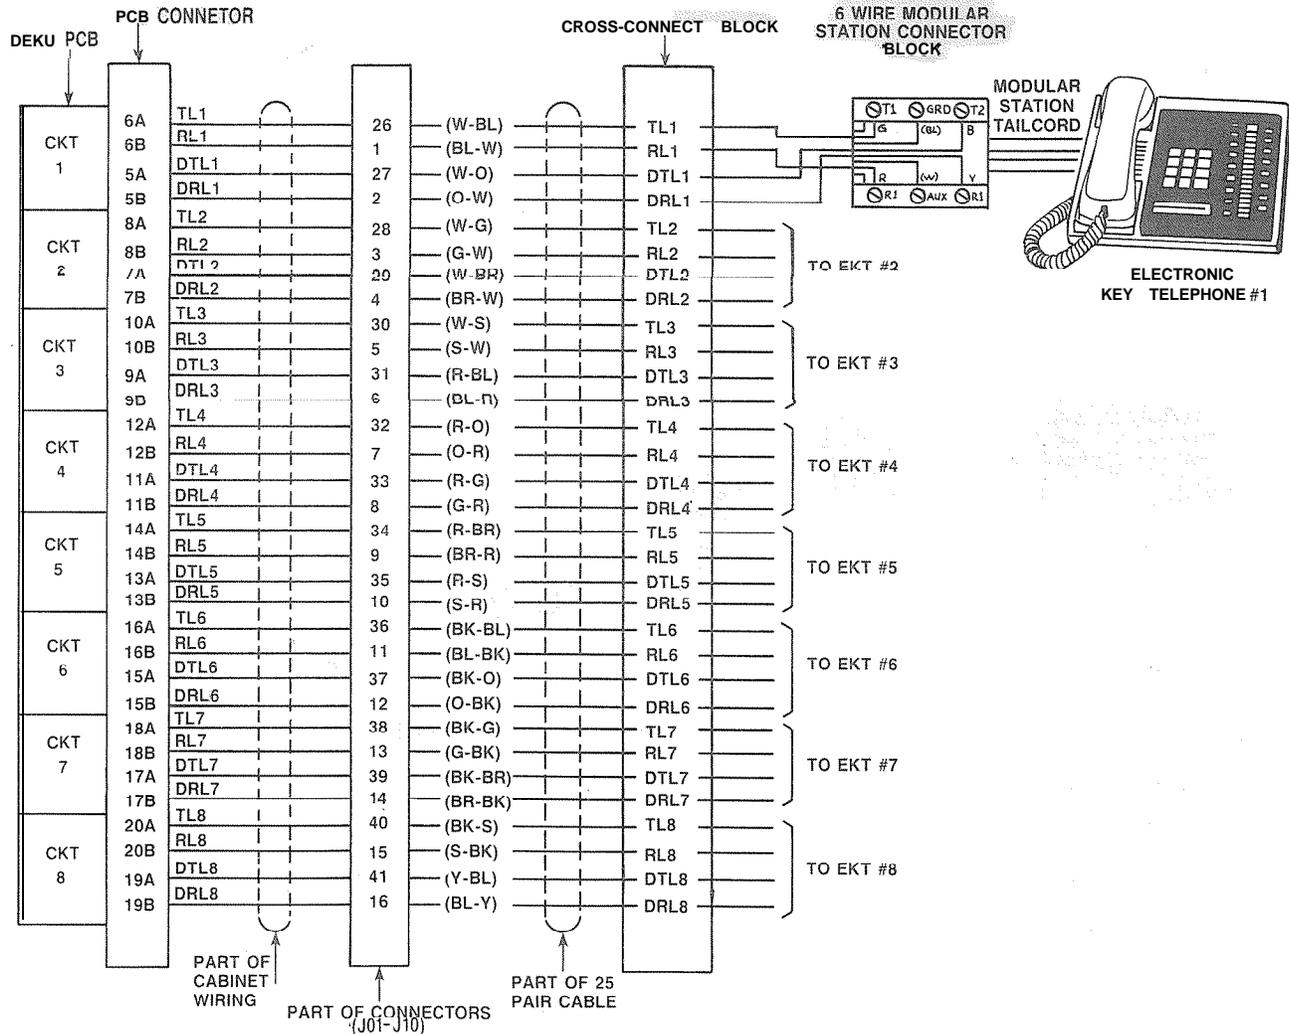

FIGURE 25—EKT CONNECTION
08.04 EKT connection details are shown in Figure 25.